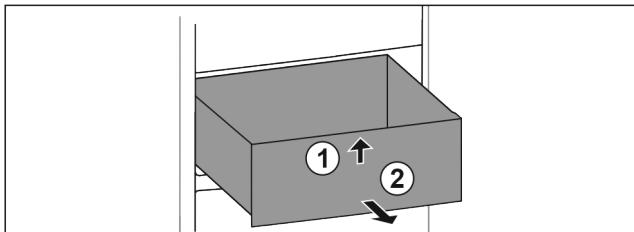

Fig. 97
- ▶ Lift up drawer at the front. Fig. 97 (1)
- ▶ Remove drawer to the front. Fig. 97 (2)